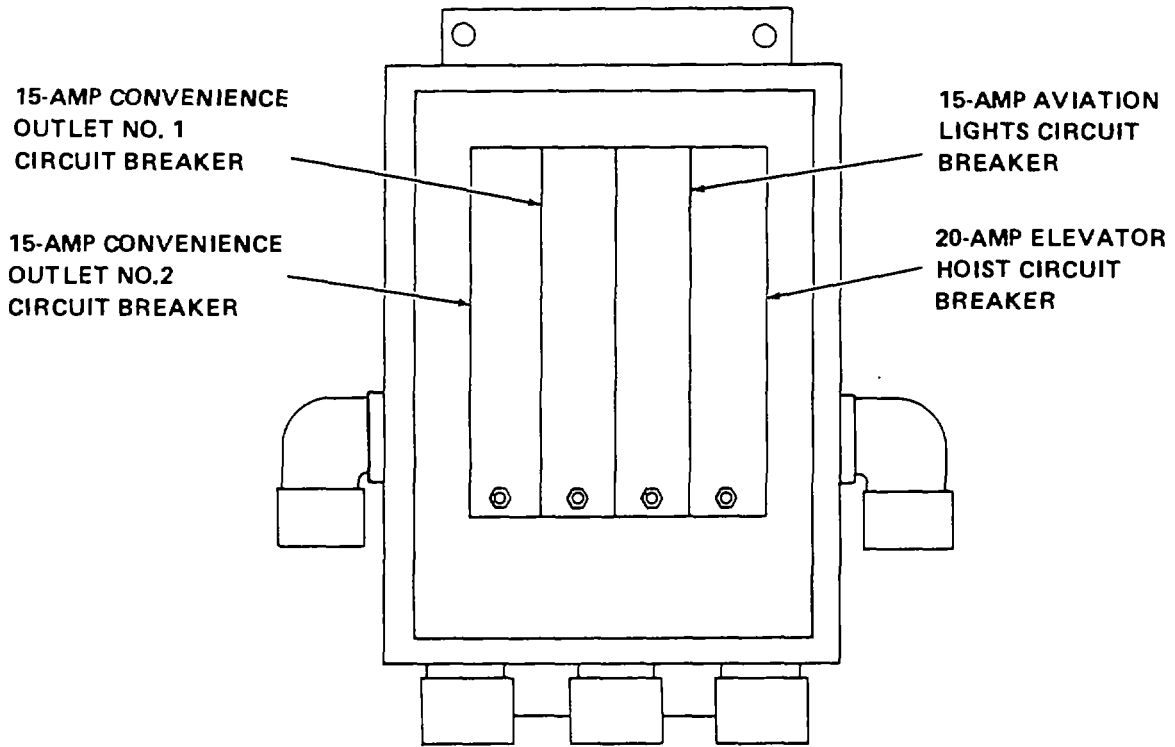

Figure 3-2. Junction Box Operating Controls
JUNCTION BOX (figure 3-2)
**3-3 PRELIMINARY STARTING PROCEDURES.** Refer to figure 3-2. Take the following steps before operating the equipment of Antenna Tower TS-9A:
- (1) 15-ampere convenience outlet number 1.
- (2) 15-ampere convenience outlet number 2.
- (3) 15-ampere aviation lights.
- (4) 20ampere elevator hoist.